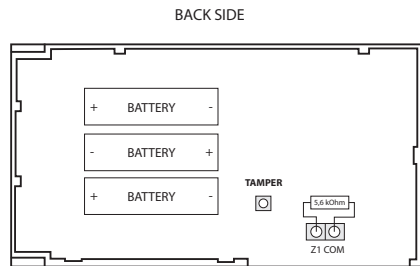
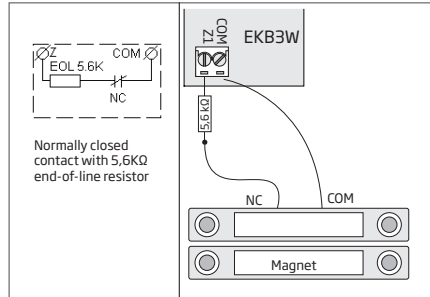

Fig. No. 2
Fig. No. 4
- Connect a sensor and the resistor across **Z1** and **COM** terminals in accordance with zone connection Type 1 or Type 2 (see Fig. No. 4). As keypad zone Z1 is disabled by default, it can be enabled by SMS text message, *ELDES Configuration Tool* software, EKB2 (only for ESIM364), EKB3 (only for ESIM364) and EKB3W keypad. Keypad zone Z1 must be enabled and resistor connected even if the tamper-switch alone is required (see Fig. No. 2).
ATTENTION! Before fixing the keypad into the holder, please, make sure that the tamper is properly pressed (see Fig. No. 2).